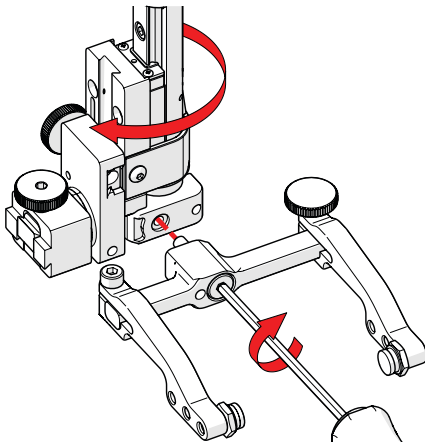

Fig. 72 - Screw yoke to opposite side
6. Mount the yoke to the opposite side of the base using the supplied 3 mm hex driver (Fig. 72).